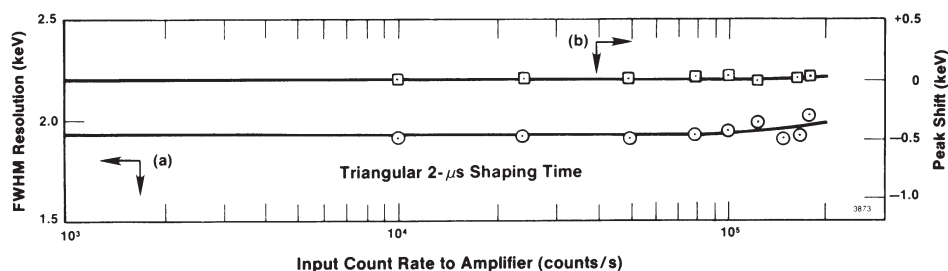

Fig. 2. (a) Resolution and (b) Peak Position Stability as a Function of Counting Rate. See specifications for spectrum broadening and spectrum shift.
To minimize spectrum distortion at medium and high counting rates (Fig. 2), the unipolar output incorporates a high-performance, gated, baseline restorer with several levels of automation. Automatic positive and negative noise discriminators ensure that the baseline restorer operates only on the true baseline between pulses in spite of changes in the noise level. No operator adjustment of the baseline restorer is needed when changes are made in the gain, the shaping time constant, or the
### SPECTRUM BROADENING† (Fig. 2)
**SPECTRUM SHIFT† (Fig. 2)** Peak position typically shifts  $< \pm 0.018\%$  for counting rates up to 100,000 counts/s, and  $< \pm 0.05\%$  for counting rates up to 200,000 counts/s. Measured on the 1.33-MeV line under conditions specified for SPECTRUM BROADENING.